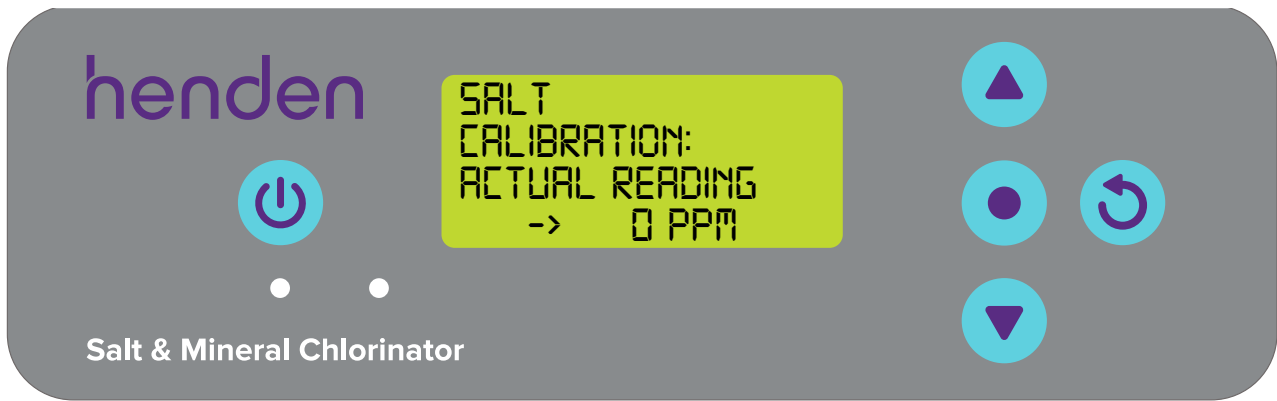

Figure 6.25
- If you’ve chosen to use the salt probe, the next screen will display Oppm salt (refer Figure 6.25).